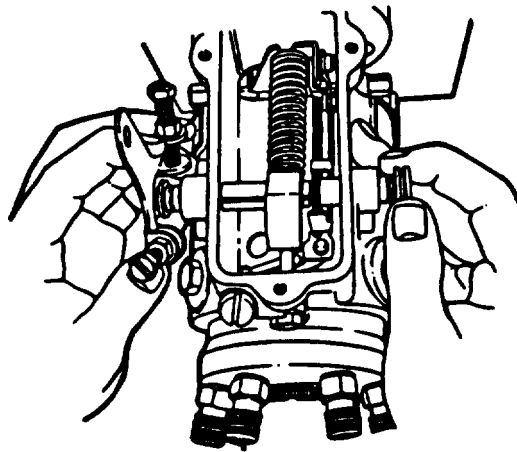

FIGURE 3-84. Installing Throttle Shaft Assembly (Typical)
- bh. Install throttle shaft assembly (18) partially through its bore in housing. Slide barrel and spacer (20) and throttle shaft lever (19) over throttle shaft so that projection in lever (19) engages rear key way on shaft. Position forked end of throttle lever so it straddles guide stud, refer to FIGURE 3-84.
- bi. Slide damper barrel assembly (41) over damper piston (43) and slide throttle shaft assembly (18) through damper barrel (41), throttle shaft spacer (20), and throttle lever (19).